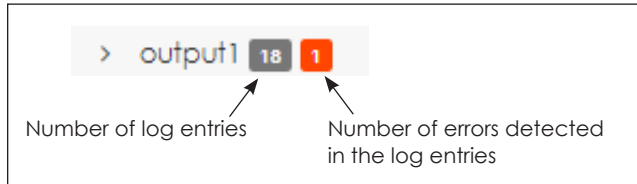

Figure 8: Bootloading Details
5. Click **> Show Progress Details** to see the bootloading progress bar for each output. If any errors are found, a red box with the number of detected errors appears next to the output name. Refer to **Figure 8**.